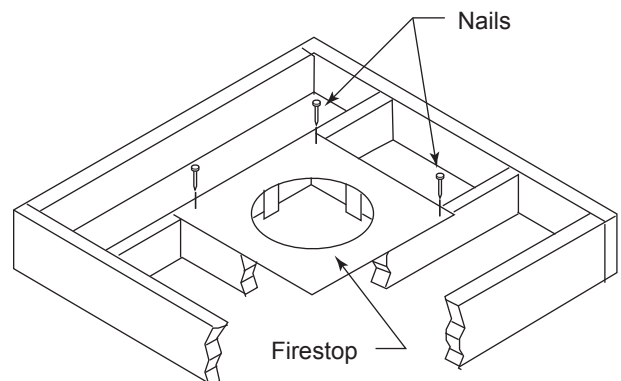
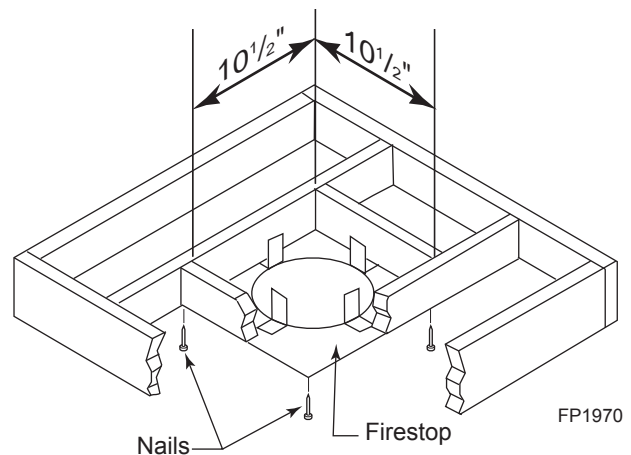

Figure 27 - If Area Above is a Room, Install Firestop above Framed Hole as Shown
Figure 28 - If Area Above is Not a Room, Install Firestop below Framed Hole as Shown
1. Cut a 10½" (241 mm) square hole in the ceiling using the locating hole as a center point. The opening should be framed to 10½" x 10½" (241 x 241 mm) inside dimensions as shown in Figure 28 using framing lumber the same size as the ceiling joist. If the area above the ceiling is an insulated ceiling or a room, nail firestop from the top side. This prevents loose insulation from falling into the required clearance space. Figure 27. Otherwise, install firestop below the framed hole. Figure 28